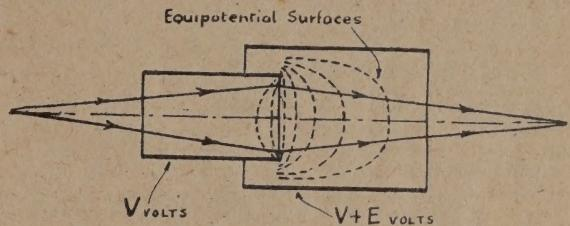

Fig. 1.
Let us first consider the electro-static lens, as being simpler in action. Fig. 1 represents such a lens, consisting of two concentric tubes held at different potential levels. The curved lines represent
Fig. 1. Showing the three main parts (A), (B) and (C) for a valve unit suitable for miniature valves. The fourth drawing (at the bottom) shows how the three parts are fitted together.
Since the coils are mounted together in a compact unit, then why not have a similar unit which contains the valves and their associated small parts? This, for want of a better term, could be called a "valve unit," and a suitable design is shown in Fig. 1.
The unit consists of a small box, 1 1/2 in. square by 6 in. long, and has been illustrated for the case where an R.F. stage, a mixer, and a separate oscillator are to be used. Suggested dimensions are given, but there has been no attempt to lay down these rigidly, as the exact dimensions can be made to suit the types of valve being used. Fig. 1 (a), at the top, shows that the basic structure is the flat plate which has the valve socket holes in it, together with two partitions mounted across the R.F. and mixer sockets. The most important of these is that across the R.F. tube socket. There is a slot cut in the partition to allow the socket to be inserted, and this slot is made to fit the cross-section of the socket used, as closely as possible. The tube is then mounted so that the partition cuts diametrically across the socket, missing the four pins between which it passes, and making snug contact with the tubular shield. By turning the socket in the appropriate direction before drilling the mounting holes, one can arrange matters so that the grid pin of the R.F. amplifier falls inside the front compartment and the plate pin inside the middle one. The mixer socket is mounted similarly, so that the signal-grid comes in the middle compartment. The plate of the mixer tube can come in either the back or the middle compartment, since this electrode does not carry appreciable voltage at signal frequency, and so cannot readily cause the tube to oscillate at signal frequency. It is best, however, to have it in the rear compartment, because some mixers may develop enough voltage at I.F. for it to be dangerous to have the signal grid in the same box as the plate. In the case illustrated, it will be noticed that there is no cross-socket shield provided for the oscillator